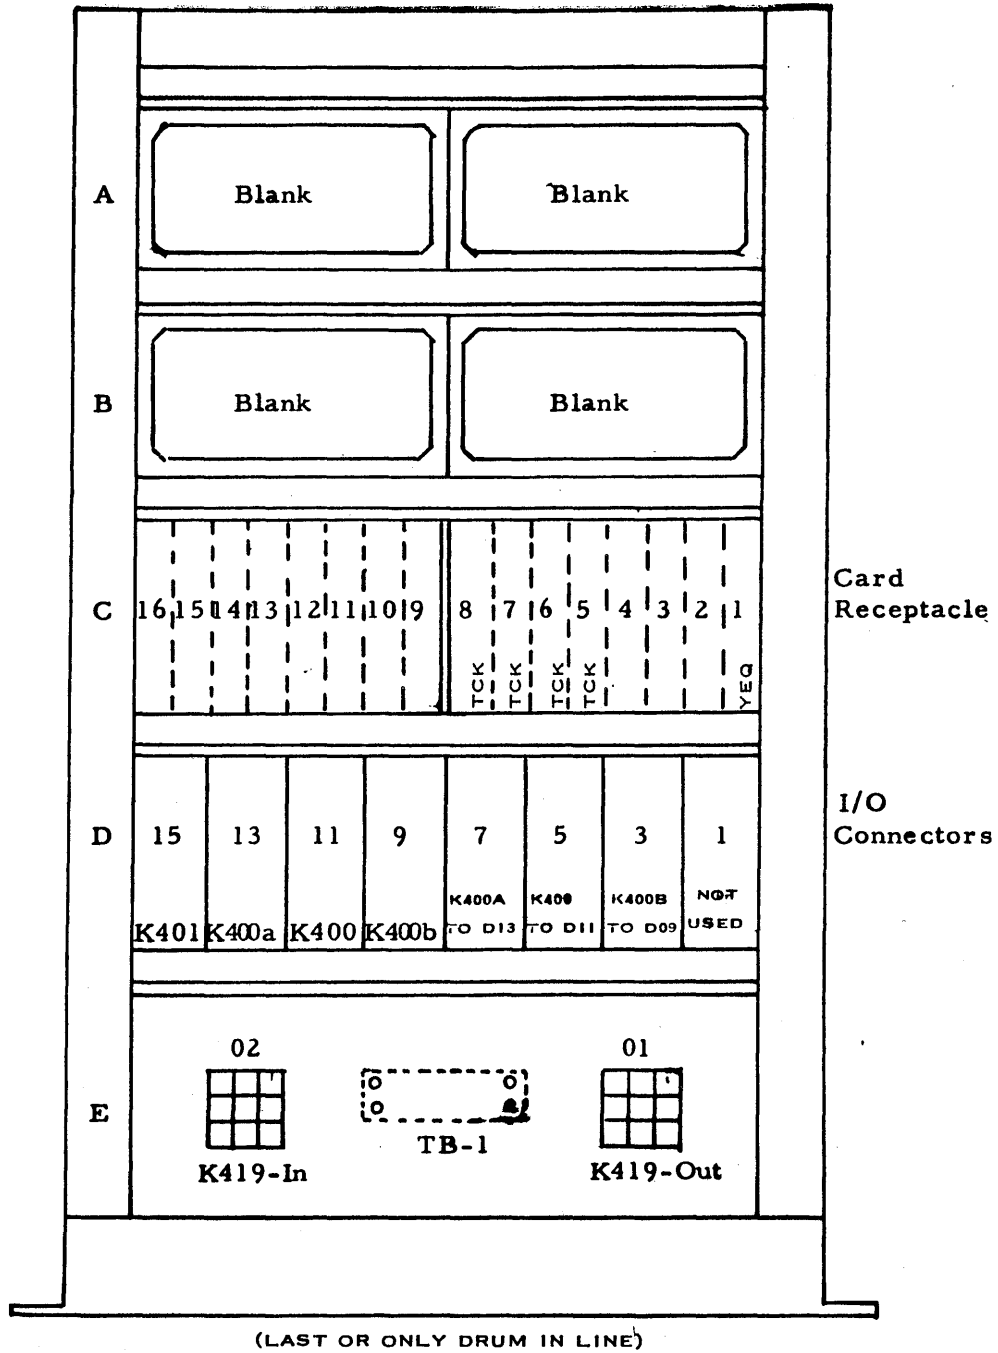

FIGURE AI-4 COMPONENT LOCATION-7320 I/O CONNECTORS
- A. Remove the cable entrance plate at the bottom of the drum unit in front of the I/O panel. Refer to Figure AI-4.
Replace the clamp bar and bottom plate. Tighten the bottom plate as much as possible, making sure that the line cord does not make contact with the signal cable. Also, if the drum is the last or only unit in line, plug the TCK terminator cards (PN 370334, in 7631 Shipping Group), into card receptacles C05, 06, 07, 08. If the drum is intermixed with other units, remove and re-install these cards in the last drum or file in line. (Or store them, if the last unit is already terminated). The YEQ card, PN 370756, comes plugged into C01 and must remain in place. See Figure AI-4.